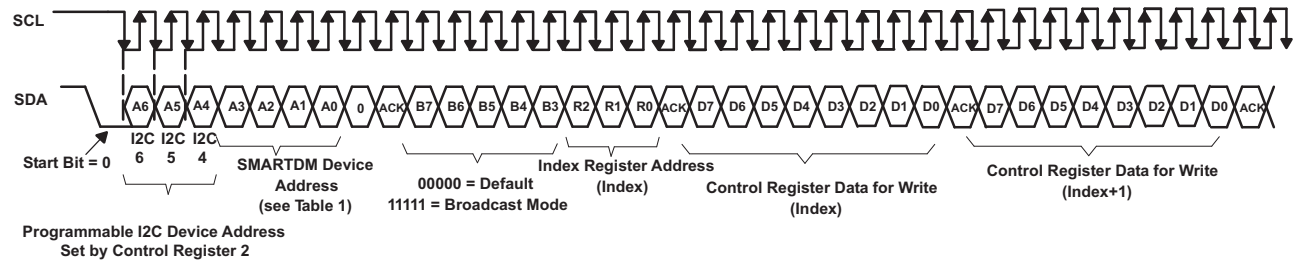

**Figure 26. S2C Programming**
The S2C is a write-only interface selected by programming bits D1-D0 of control register 2 to 01. The SDA input is normally in a high state, pulled low (START bit) to start the communication, and pulled high (STOP bit) after the transmission of the LSB. SCLK and FS must be active during register programming. Figure 26 shows the timing diagram of S2C. The S2C also supports a broadcast mode in which the same register of all devices in cascade is programmed in a single write. To use S2Cs broadcast mode, execute the following steps:
2. Write data to program control register as specified in Figure 26 with bits D14-D11 = XXXX (don't care).